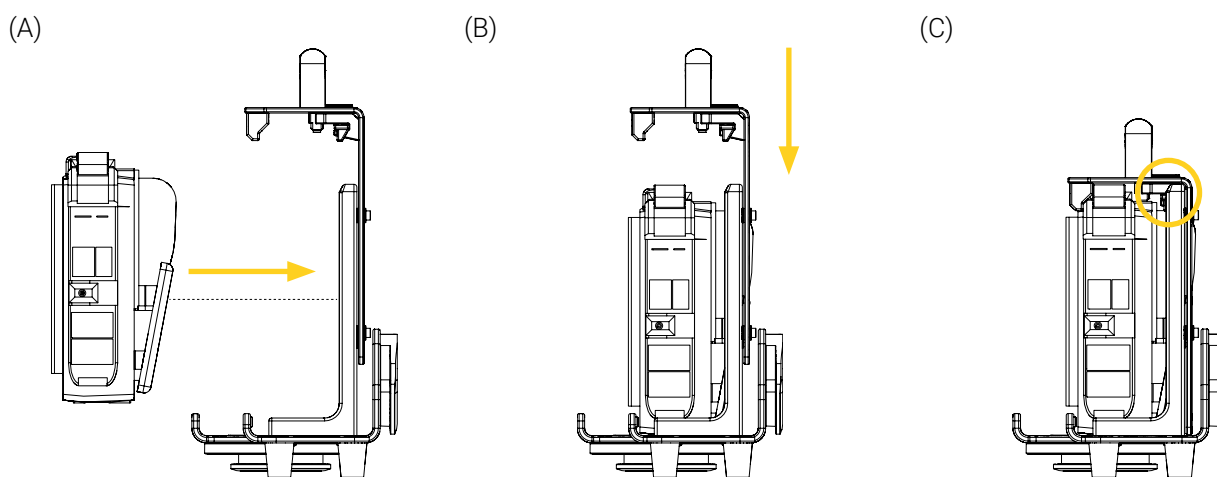

Figure 11: Installing the medical device in the BP76–FL MCD
1. Unlock and extend the BP76–FL MCD using the trigger handle and top handle (Figure 11). Refer to the « Extend the BP76–FL MCD » section on page 19 if needed.